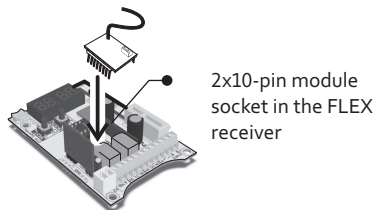

Fig.3 Installation of the AZ-FLEXRX receiving module in the FLEX receiver.
1. Mount the AZ-FLEXRX receiving module in the FLEX receiver (Fig. 3). Set the input in the signaling mode in the FLEX receiver menu - 'Sr.St = on' option (see the FLEX receiver manual).
1. Mount the AZ-FLEXRX receiving module in the FLEX receiver (Fig. 3). Set the input in the signaling mode in the FLEX receiver menu - 'Sr.St= on' option (see the FLEX receiver manual).